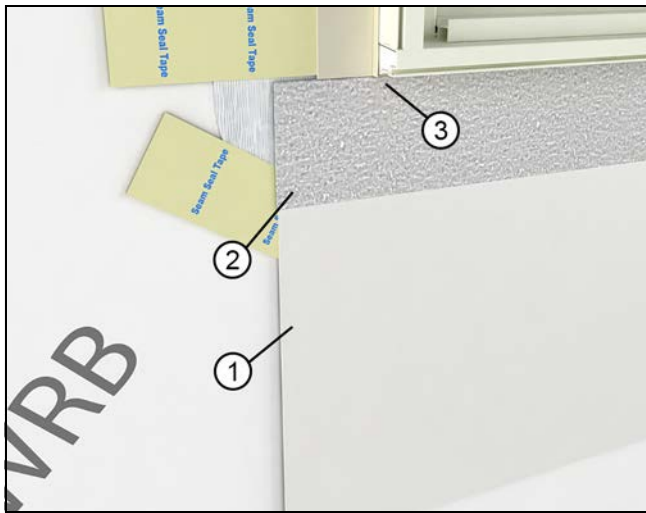

Figure 49
5. **Optional Skirt:** Install an optional "skirt" in applications with exposure to wind driven rain/climate. Use flashing material or a 12" (305) strip of WRB and attach to the sill of the window with seam seal tape or flashing tape. See Figure 49.